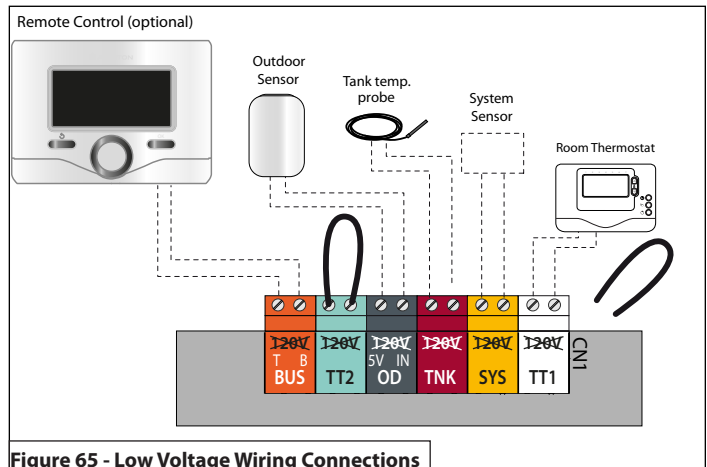

Figure 65 - Low Voltage Wiring Connections
3. Connect the room thermostat wires to the terminals indicated in Table 18 and Figure 65.